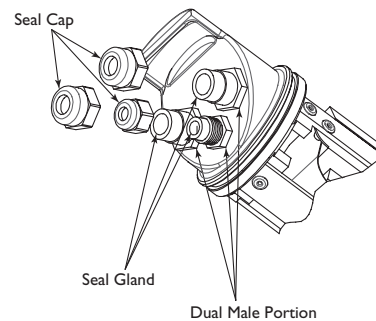

FIGURE 3 Liquid Tight Fitting Assembly
1. The dual male threaded portion of the three (3) liquid tight fittings, two (2) NPT 1/2in., and one (1) NPT 3/8in., located in the rear of the cradle, are preinstalled to a specified torque to prevent entrance of water. Do not remove or loosen these parts. The two large fittings are supplied with seal glands for cables with diameters from 4.3mm to 11.9mm (0.17in. to 0.47in.). The small fitting will accept cables with diameters from 4.6mm to 7.9mm (0.181in. to 0.312in.) see FIGURE 3.